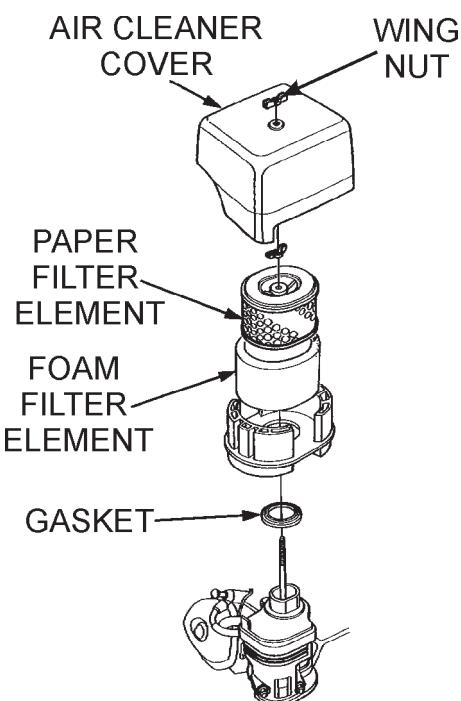

Figure 26. Engine Air Cleaner
- Remove the air cleaner cover and foam filter element as shown in Figure 26.